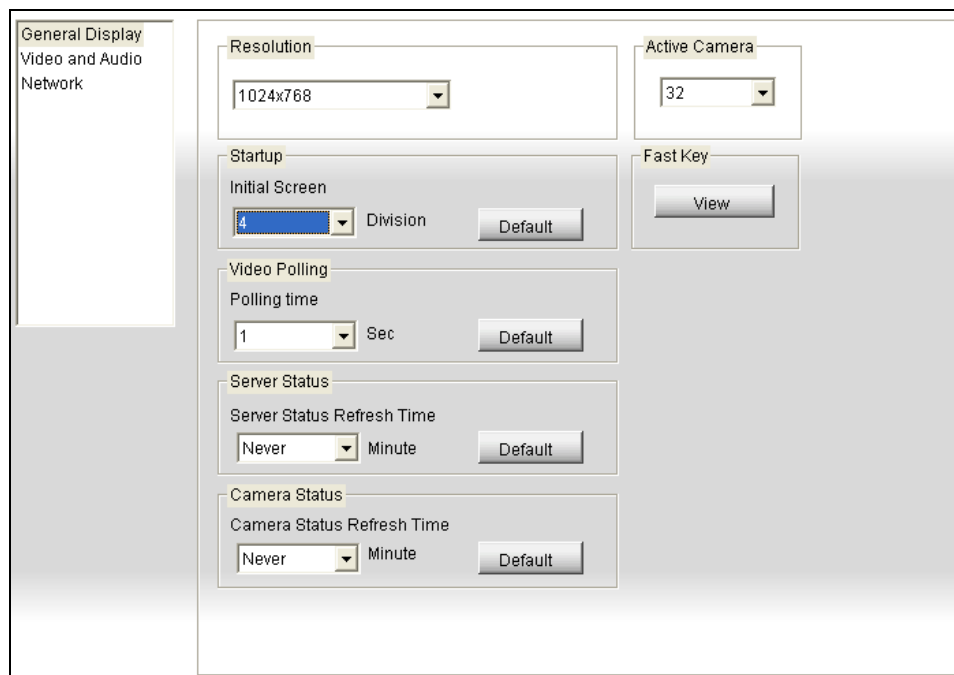

Figure 8-42 The Configure Window
2. Click the **Video Polling** button (No. 18, Figure 8-34). The application will rotate the selected cameras in the specified time. To configure the polling time, see Figure 8-42.